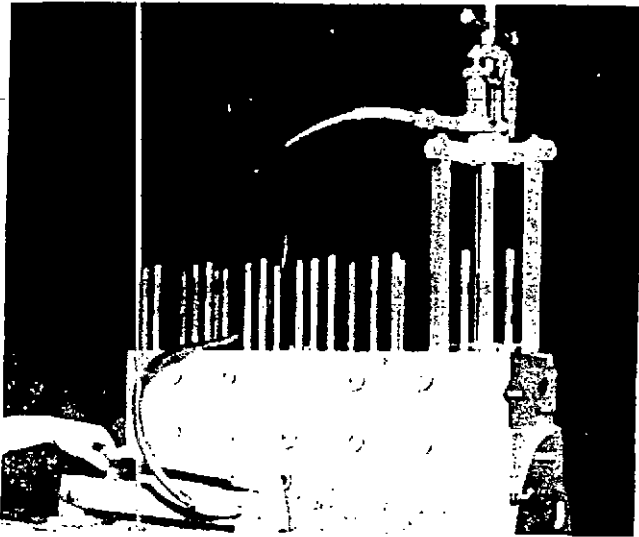

Figure 174
1. Pull the sleeves, using a puller of the type shown in Fig. 174 which makes this a simple, easy operation.